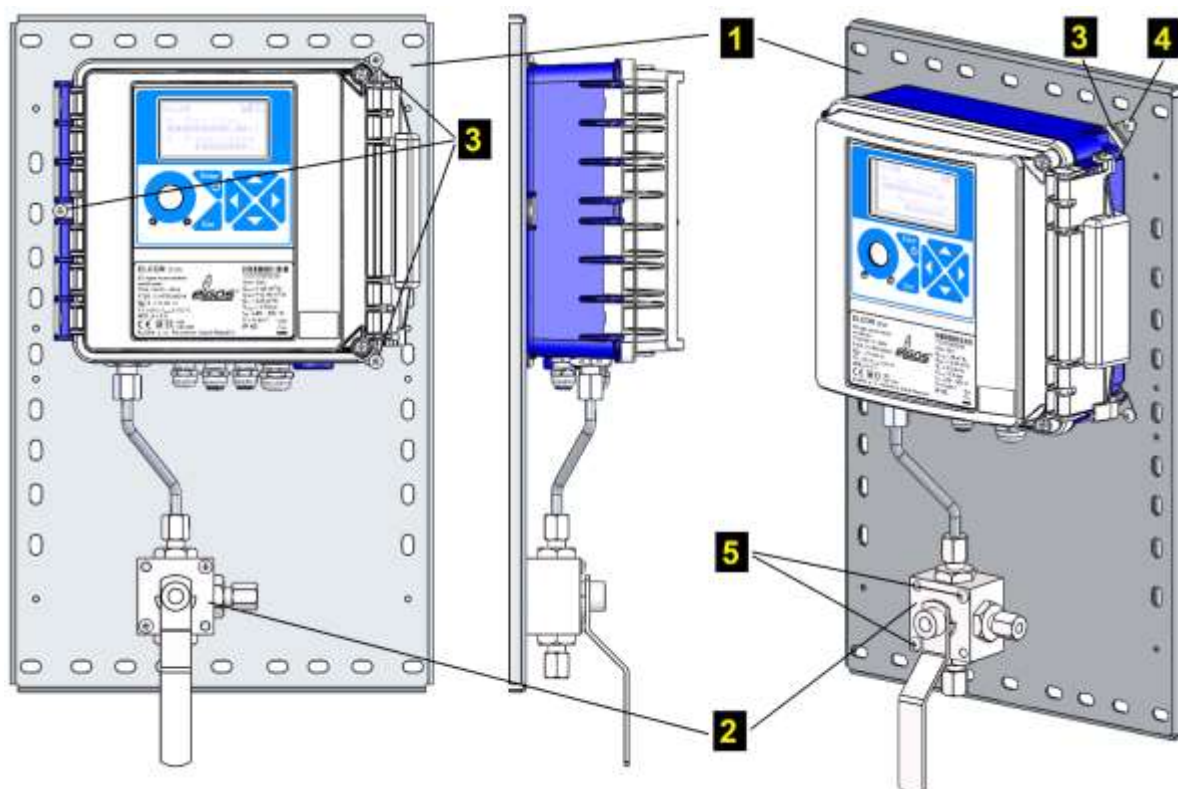
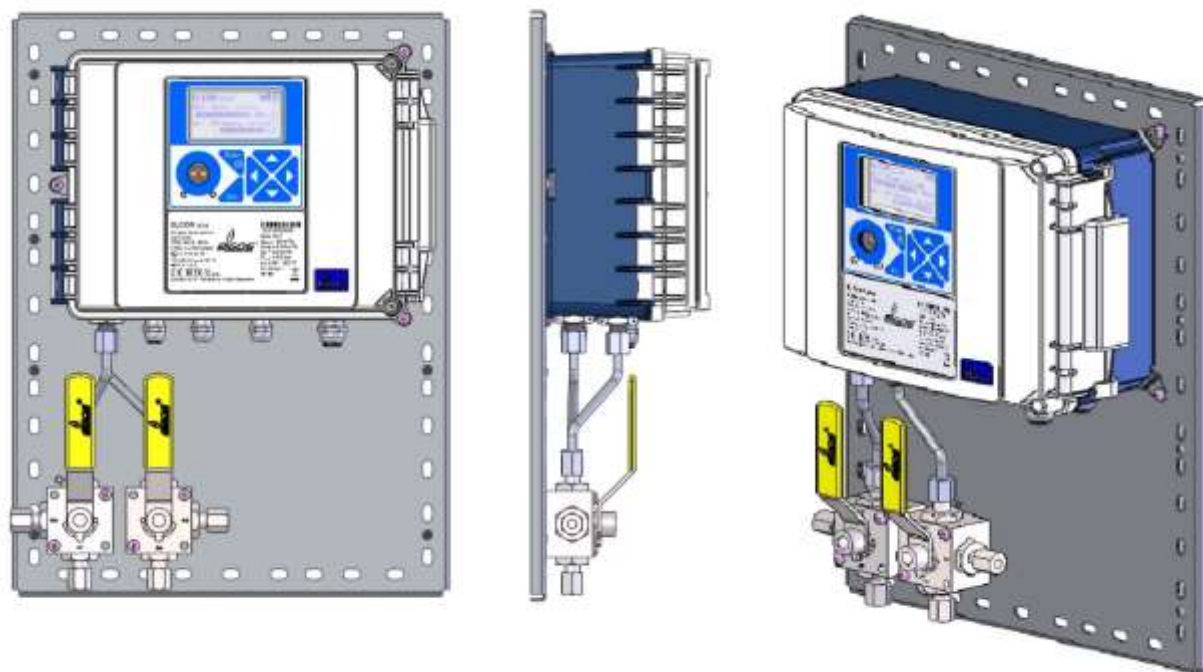

Fig. 9 Mounting of the ELCOR convertor on the mounting plate
Fig. 10 Mounting dual channel ELCORplus on a mounting plate
2. Attach the device fitted with brackets **3** to the mounting plate using 3 screws M4x10 ISO 7045 **4** (Fig. 9, Fig. 10). The M4 rivet nuts are pre-fitted on the mounting plate.